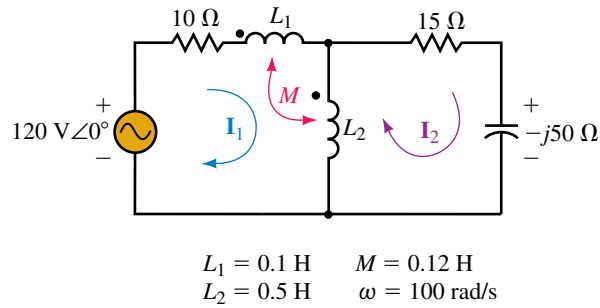

FIGURE 24-82
41. Write mesh equations for the circuit of Figure 24-82. (This is a very challenging problem.)